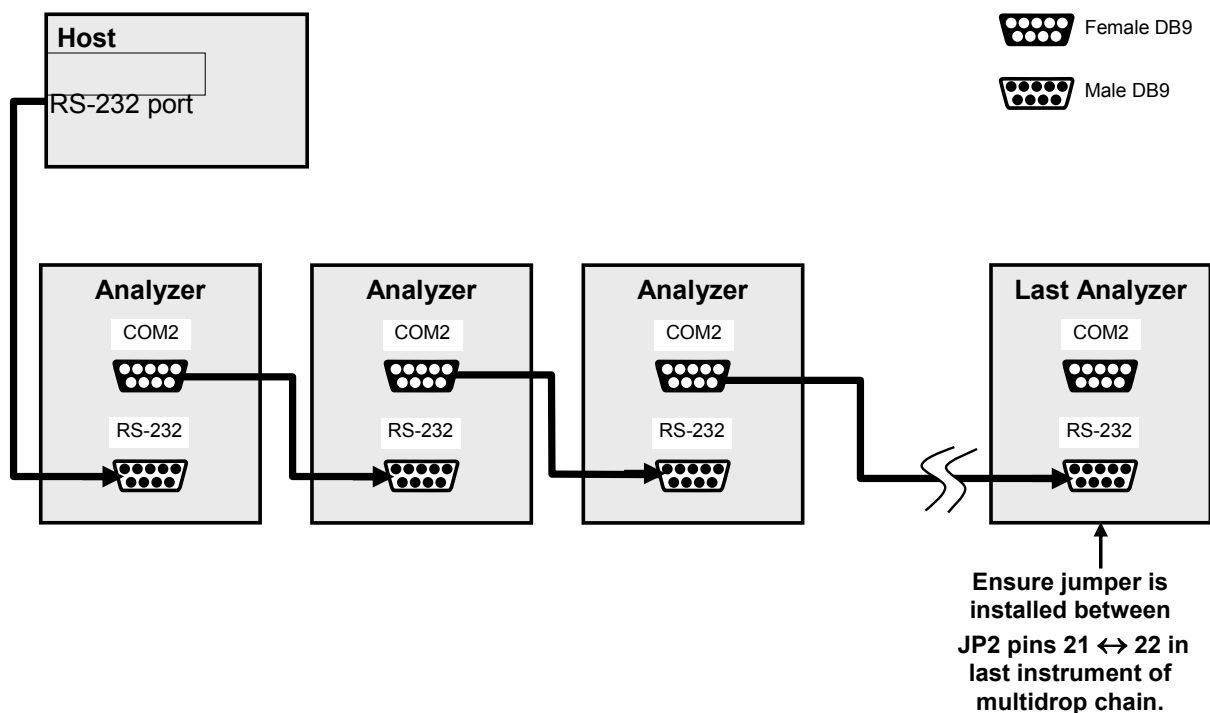

Figure 3-15: RS-232-Multidrop PCA Host/Analyzer Interconnect Diagram
5. Referring to Figure 3-15 use straight-through DB9 male → DB9 female cables to interconnect the host RS232 port to the first analyzer's RS232 port; then from the first analyzer's COM2 port to the second analyzer's RS232 port; from the second analyzer's COM2 port to the third analyzer's RS232 port, etc., connecting in this fashion up to eight analyzers, subject to the distance limitations of the RS-232 standard.